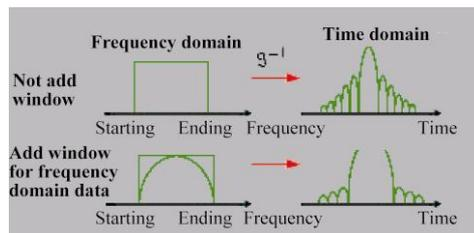

Fig. 2.7 Side Lobe Suppression by Window Filtering
- 2) **Side lobe of impact response:** caused by sudden changes of the ending frequency. The adjacent high-level response side lobe may result in hiding of low-level response signal, limiting the dynamic range of time domain measurement. The window filtering function can be used to inhibit the side lobe, as shown in Fig. 2.7.